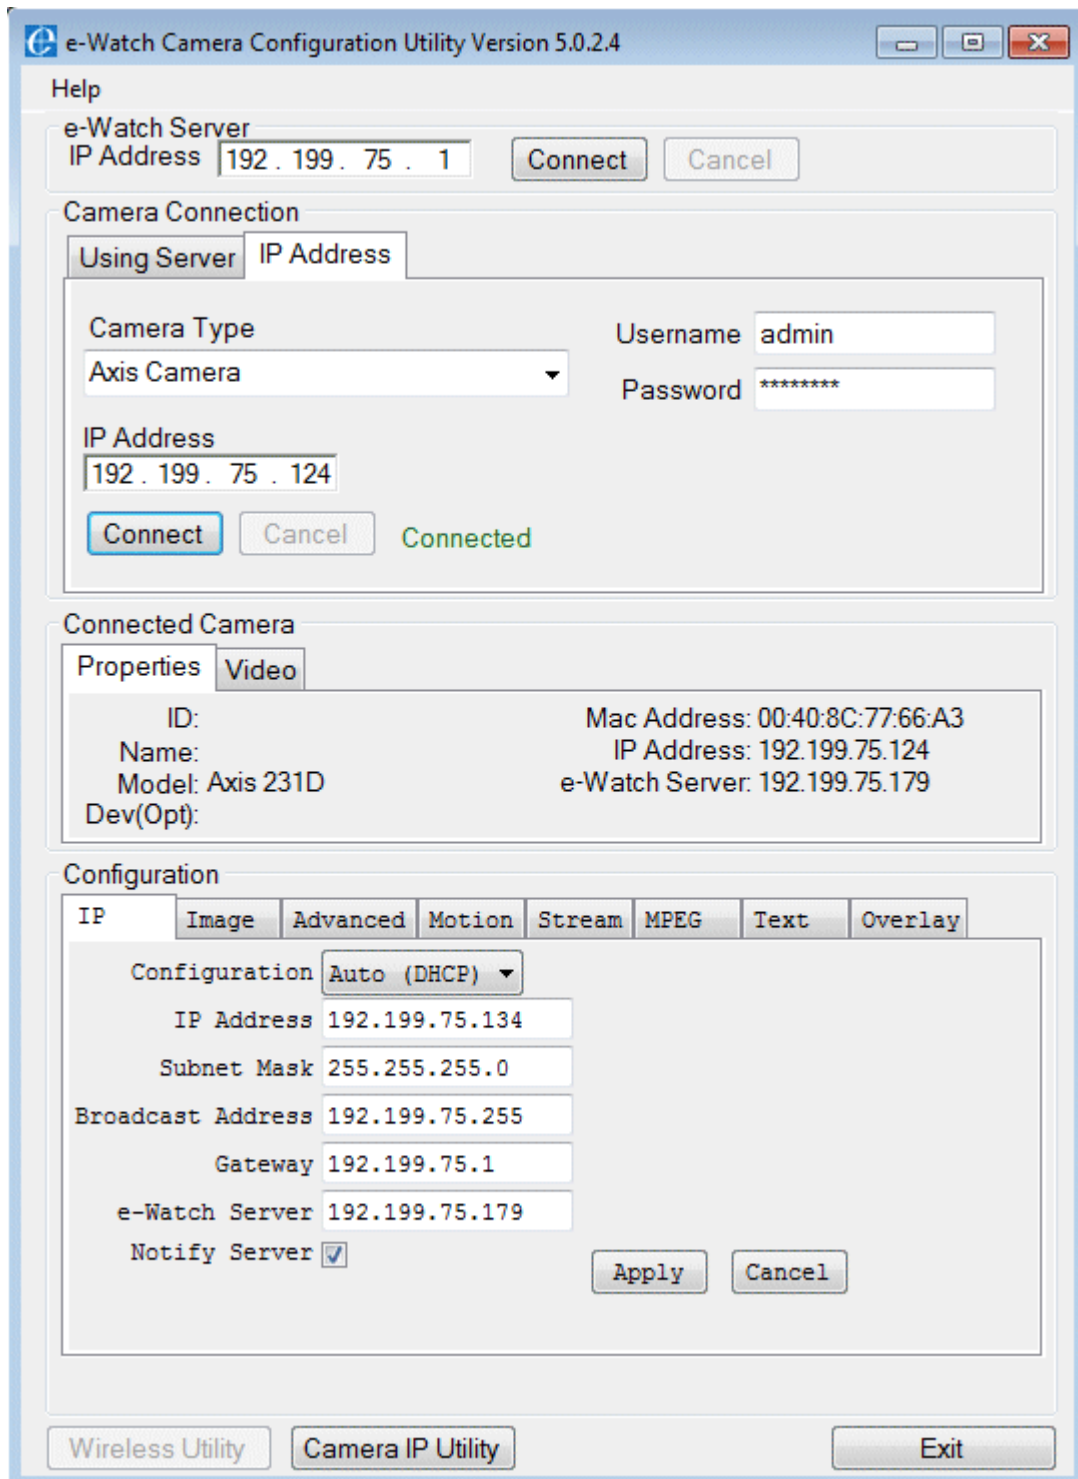

Figure 4-5. Connecting Axis Camera Using e-Watch Camera Configuration Utility
You can also accomplish this task using the e-Watch Camera Configuration Utility. See Figure 4-5.
- Figure 4-5. Connecting Axis Camera Using e-Watch Camera Configuration Utility 14